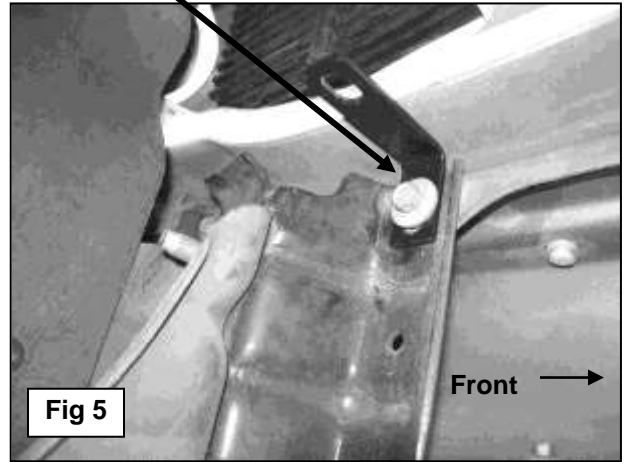

Fig 5
- Next, remove the factory hex bolt located on the back of the front bumper securing the bumper to the top of the bumper bracket, **(Figure 4)**. Select (1) "L" Top Support Bracket and attach it to the back of the bumper bracket using the factory hex bolt, **(Figure 5)**. Snug but do not tighten hardware at this time. Repeat this Step to install the passenger side "L" Top Support Bracket.